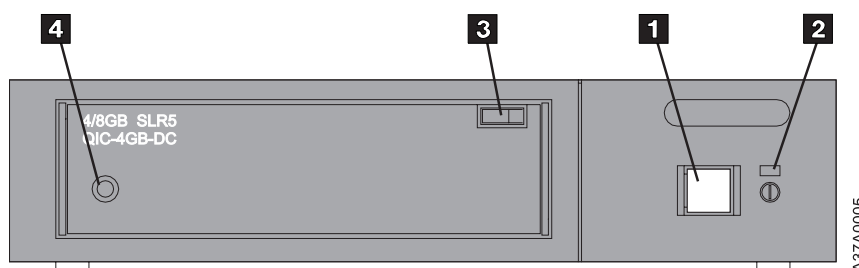

Figure 8. Front View of the 7207-122 Tape Drive
Figure 8 shows the front view of the 7207-122 Tape Drive.
The power switch (**1** in Figure 8) is a momentary push button switch that enables the power to be turned on or off. When the 7207-122 Tape Drive is on, the power-on light **2** is on.
2. Press the unload button (**3** in Figure 8 on page 13). The tape drive door opens.